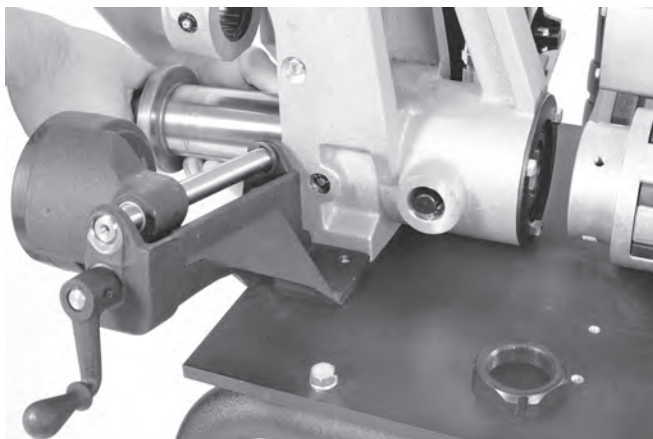

Figure 25 – Removing Drive Shaft Assembly
3. Remove the drive shaft from the front of the groover (Figure 25).